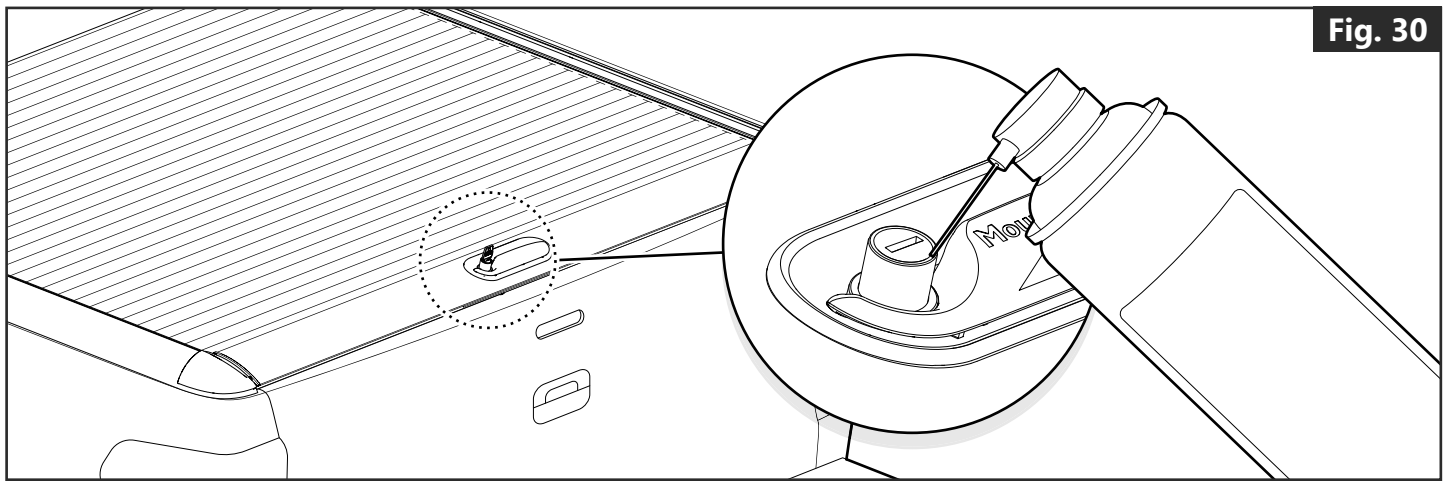

Fig. 30
- The lock should be lubricated regularly using a suitable lock lubricant (e.g. Würth lock spray), or similar. **(Fig. 30)**